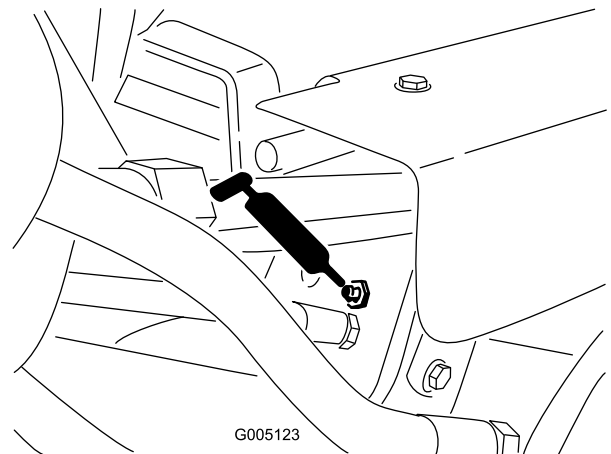

Figure 30
- Lift cylinders (3) (Figure 30)